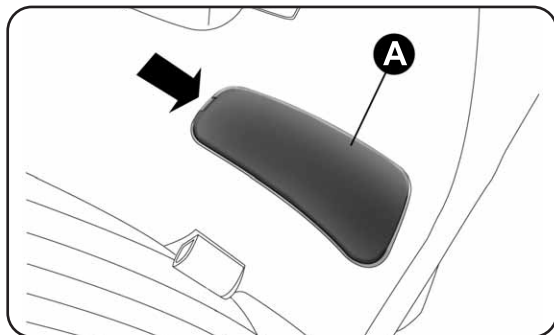

fig. 137
- open the boot and remove the cover A-fig. 137 using a screwdriver in the point indicated by an arrow;
- refit the bulb holder assembly positioning it correctly, fasten screw C and then fix it by means of the retaining tab B. Then refit the cover A-fig. 137.
IMPORTANT Protect the tip of the screwdriver with a cloth to prevent scratching when removing the cover A-fig. 137.